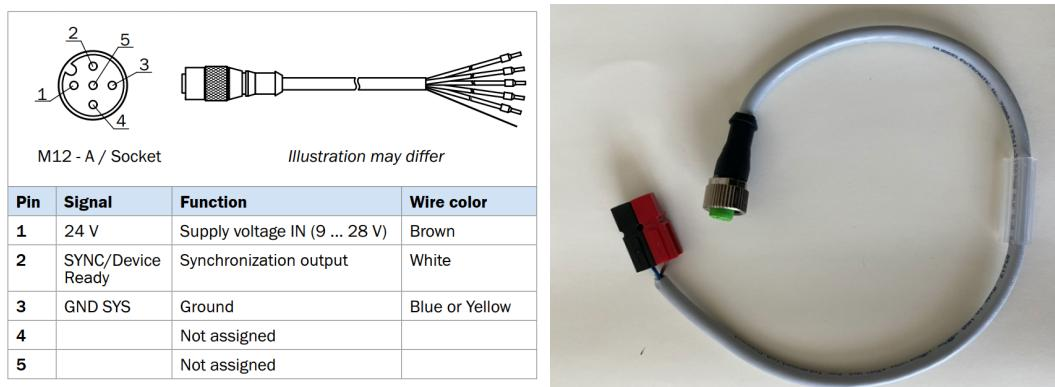

Figure 2-Power Cable Diagram
5. Based on the diagram from Figure 2, crimp only pin 1(Vin) and 3(GND) from Lidar power cable.